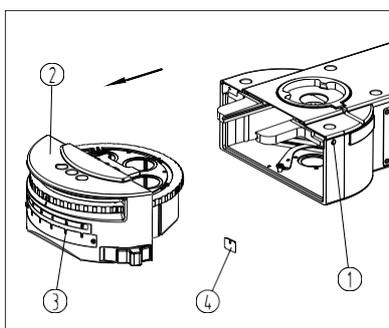

Fig. 2
- (1) Loose the right side lock screw ① of the turntable fluorescence illuminator, with a M4 inner hexagon spanner, and pull the front cover group ② out of the dovetail groove. (See Fig. 2)